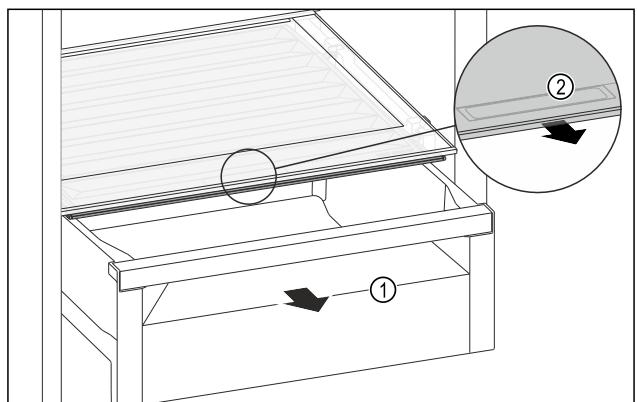

Fig. 86
- ▶ Pull out the drawer Fig. 86 (1).
- ▶ Grasp the recessed grip Fig. 86 (2) on the compartment lid and pull the compartment lid forwards at the same time.